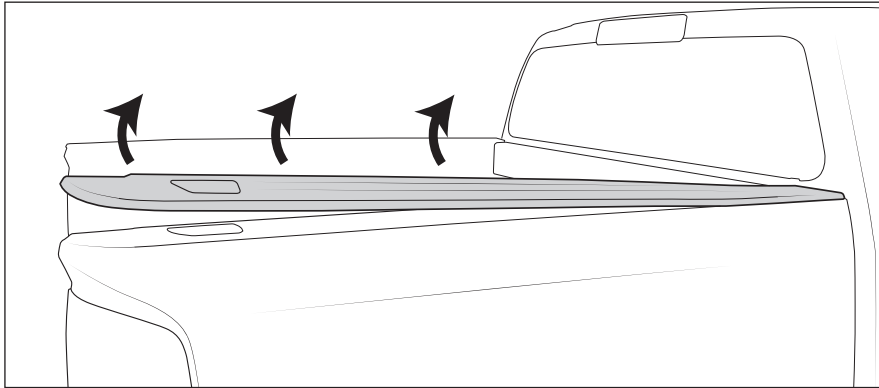

Figure 1
1. Remove the right side rail cap by prying upward (fig. 1).